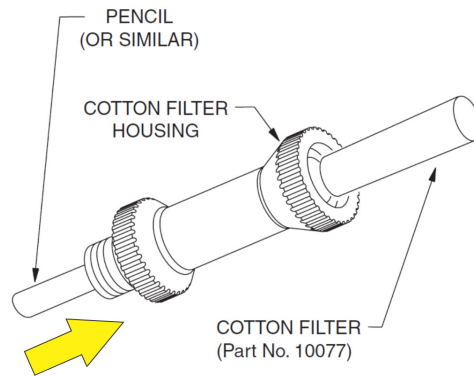

Figure 50: Cotton Filter Removal
1. Using a pencil, push the cotton filter from the threaded end of the housing, as shown in Figure 50: Cotton Filter Removal, then remove it.